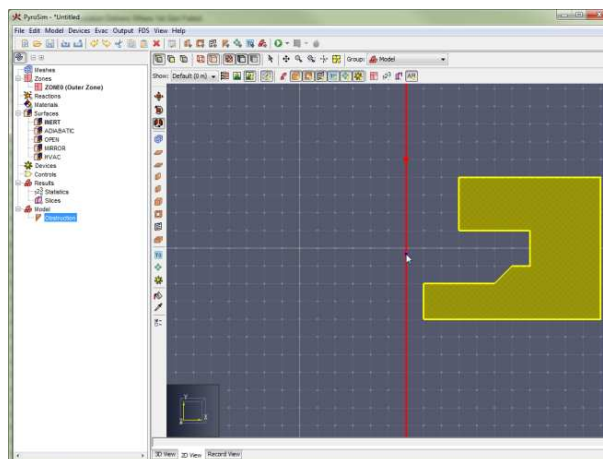

Figure 101. Define second point and mirror line
3. Use **Click-drag Mode** or **Multi-click Mode** to define two points that create a plane about which the selected objects are mirrored (Figure 101).